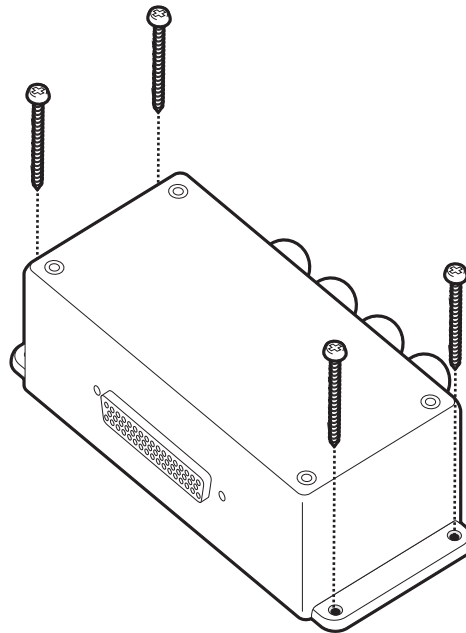

Figure 37 Mounting the junction box
- The transceiver is supplied with four self tapping screws for attachment of the junction box to a suitable surface. Please refer to Figure 37 for guidance.